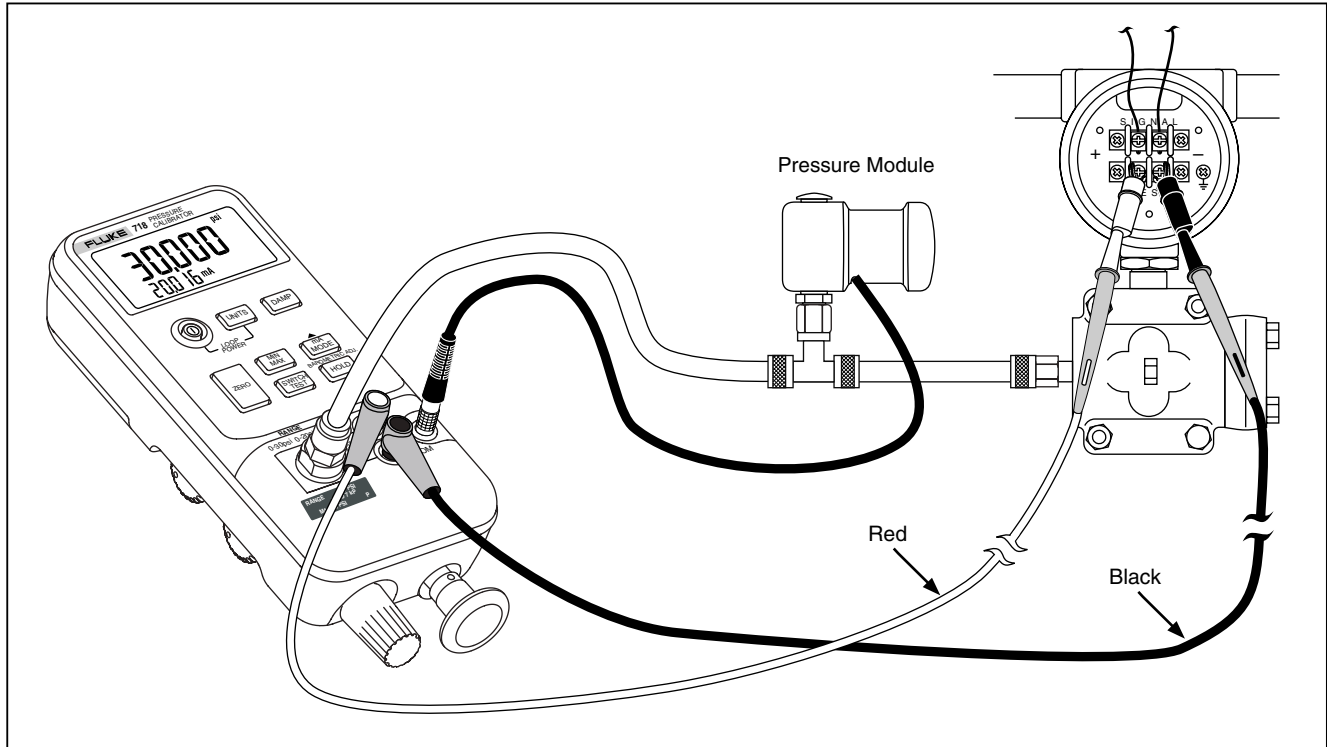

Figure 5. Pressure Module with Internal Pump
The internal pump can also be used with certain Fluke 700 Series Pressure Modules. In this case, pressure measured by the Pressure Module is displayed by the Calibrator. Appropriate pressure modules for each Calibrator model are identified in Table 6 . Figure 5 shows the internal pump being used with a pressure module.
2. Connect the pressure transmitter to the Calibrator internal sensor as shown in Figure 4 (for internal pressure sensor measurements) or Figure 5 (for pressure module measurements.)